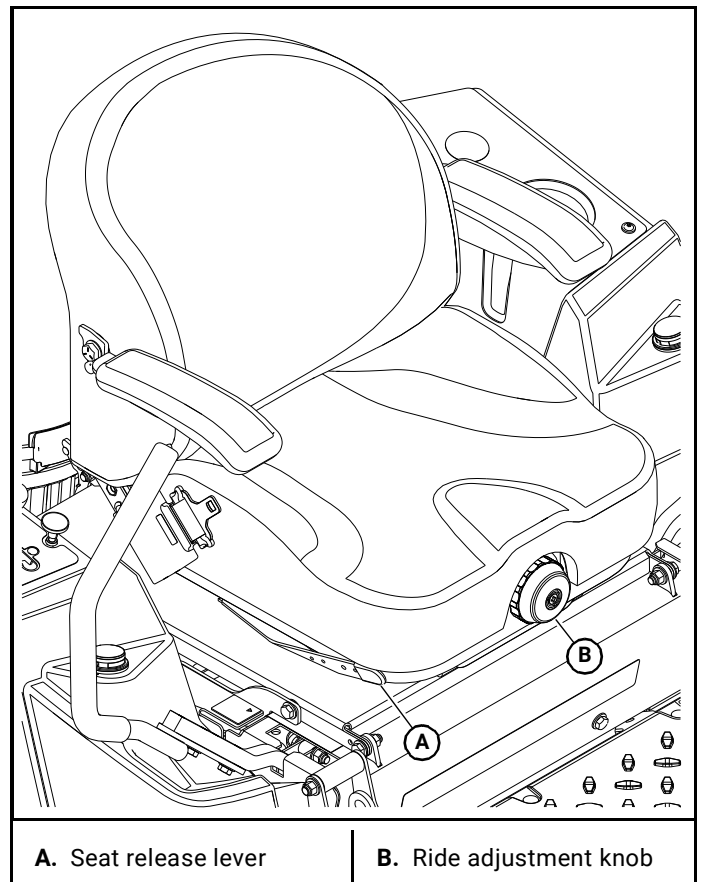

Figure 4-22
1. Use the seat release lever to slide the seat forward and rearward. Figure 4-22
2. Adjust the seat firmness by turning the ride adjustment knob. Figure 4-22